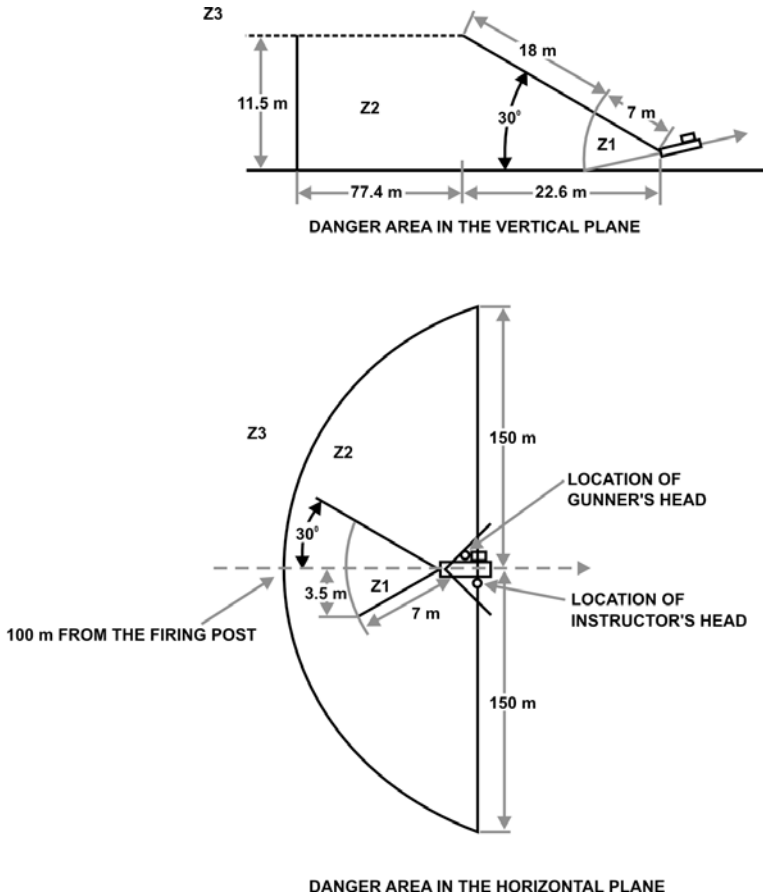

Figure 2-6: Extended Caution Zone for HEAT Missile
38. **Downrange Hazard.** *Explain.* The arc of fire extends at an angle of 400 (373) mils on either side of the firing axis. This area must be clear of friendly troops. However, the engagement of a target with a HEAT missile at 150 metres or less will endanger the gunner. For this reason, the gunner must adopt a suitable firing position. In peacetime, an anti-fragmentation wall (61 cm high by 61 cm thick), built up with sand bags or a trench, shall be used when shooting HEAT missiles. **During peacetime, targets closer than 150 metres shall not be engaged with HEAT missiles.**
39. **Extended Caution Zone behind the Weapon.** *Explain.* There is a peacetime requirement for an extended caution zone when firing HEAT missiles. This zone extends 150 metres on each side of the firing post and 100 metres to the rear (see Figure 2-6).